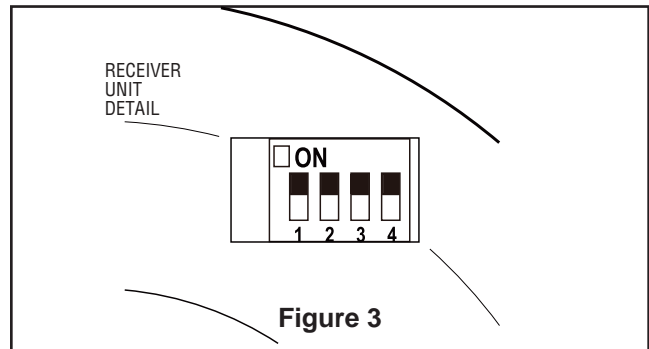

Figure 3
2. Carefully lift the fan and seat the downrod/hanger ball assembly on the hanger bracket that was just attached to the outlet box. Be sure the groove in the ball is lined up with tab on the hanger bracket (Figure 3).
2. To set the receiver unit code, slide code switches to the same positions as set on your transmitter (Figure 3).